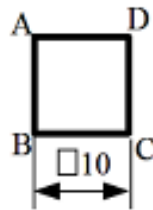

Figure 2
4. (a) Figure 2 shows square ABCD, redraw the given square and construct an involute for that square.